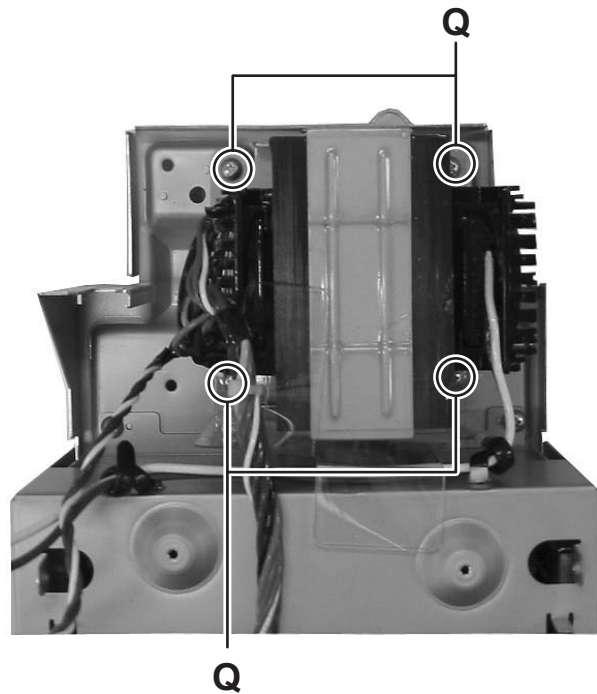

Fig.16
3.1.13 Removing the power transformer (Fig.16)